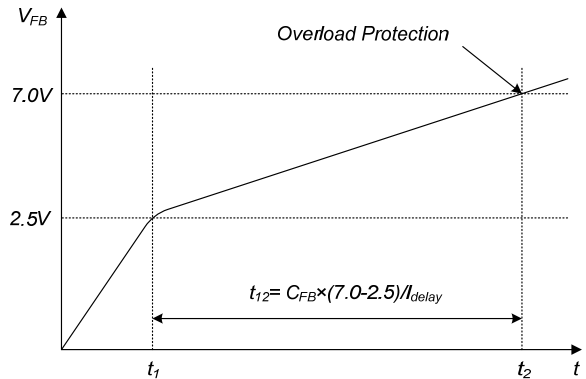

Figure 22. Overload Protection
increasing until it reaches 7.0V, when the switching operation is terminated, as shown in Figure 22. The delay for shutdown is the time required to charge C_{FB} from 2.5V to 7.0V with $2.0\mu\text{A}$. A 25 ~ 50ms delay is typical for most applications. This protection is implemented as auto-restart.
5. Soft Burst Mode: To minimize power dissipation in Standby Mode, the FSL156MRIN enters Burst-Mode operation. As the load decreases, the feedback voltage decreases. As shown in Figure 22, the device automatically enters Burst Mode when the feedback voltage drops below V_{BURL} (350mV). At this point, switching stops and the output voltages start to drop at a rate dependent on standby current load. This causes the feedback voltage to rise. Once it passes V_{BURH} (500mV), switching resumes. The feedback voltage then falls and the process repeats. Burst Mode alternately enables and disables SenseFET switching, reducing switching loss in Standby Mode.